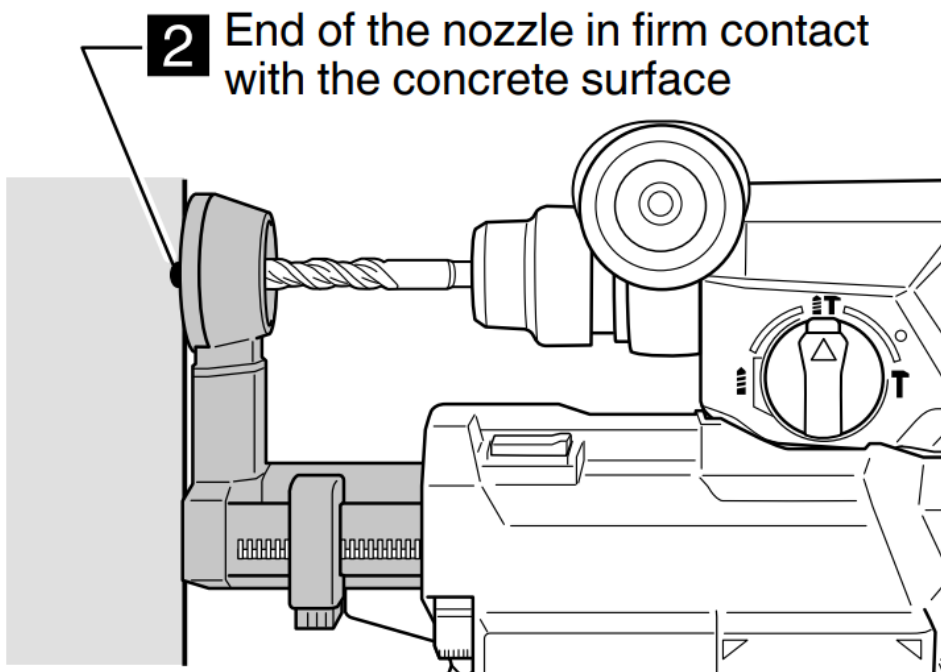

Fig. 11
2. Release the nozzle and allow it to make firm contact with the surface of the concrete. (Fig. 11)